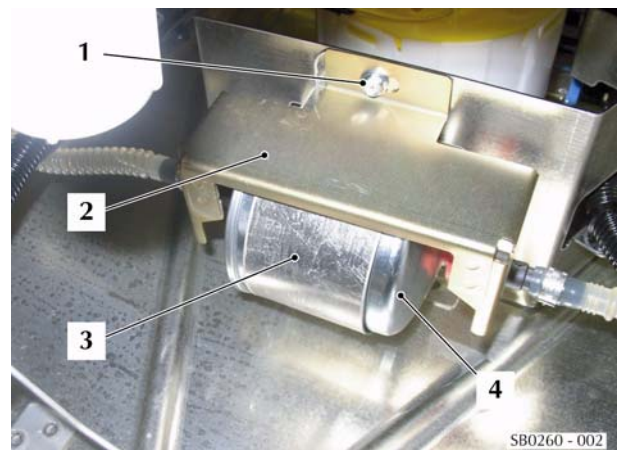

Figure 1 (Right Filter Shown)
- Remove the M5 screw (item 1) that attaches the fuel filter brackets (items 2 and 3) (refer to Figure 1).